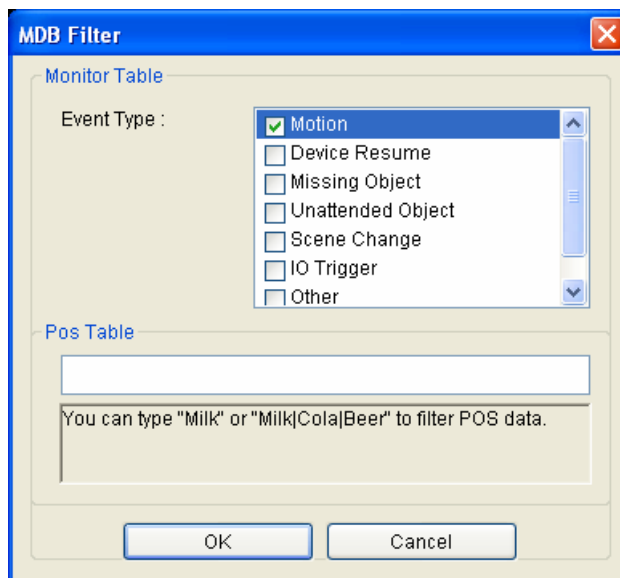

Figure 4-14
- In the Export with New Privacy Mask Region(s) section (Figure 4-14), select **Un-recoverable** and/or **Recoverable**.